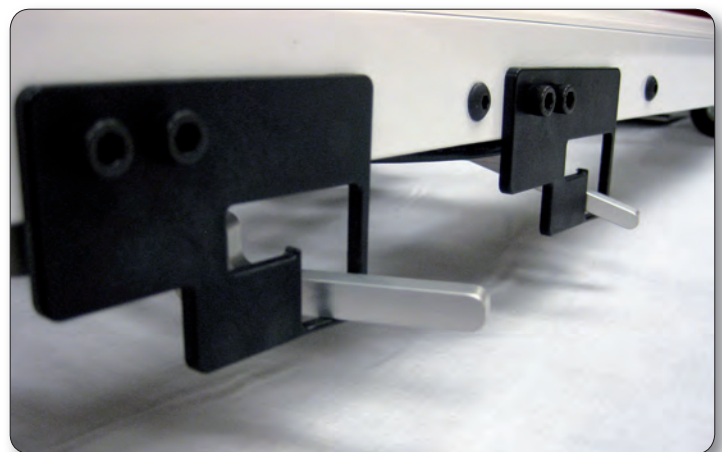

Figure 23
1. To move the HQ quilting machine around on the table after the program has loaded, press the “Engaged” button on the top right-hand side of the touch screen. This toggles the motors between being “engaged” and being “disengaged.” Use the mechanical disengagement levers on the right-hand side of the carriage to physically disengage the white carriage gears from the blue racks (Figures 23 & 24). This allows true “free motion” quilting with no added resistance from the HQ Pro-Stitcher. For both levers, the Down position is “Engaged” and the Up position is “Disengaged.”